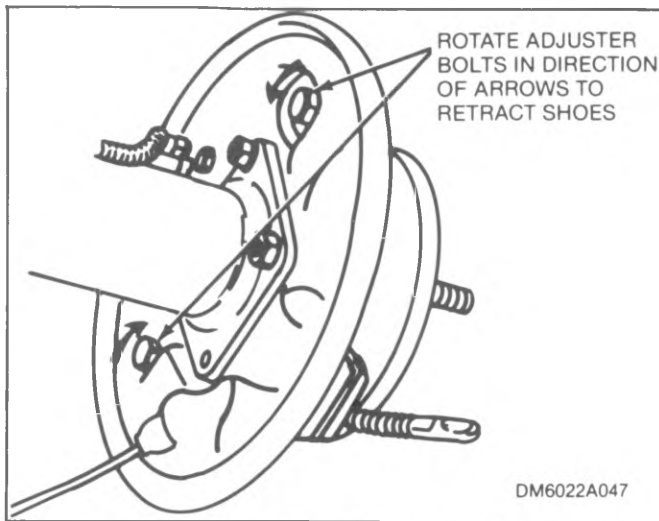

Figure 4-1. Retracting Brake Shoes
2. Turn the adjuster bolts in direction shown in figure 4-1, to retract the brake shoes.